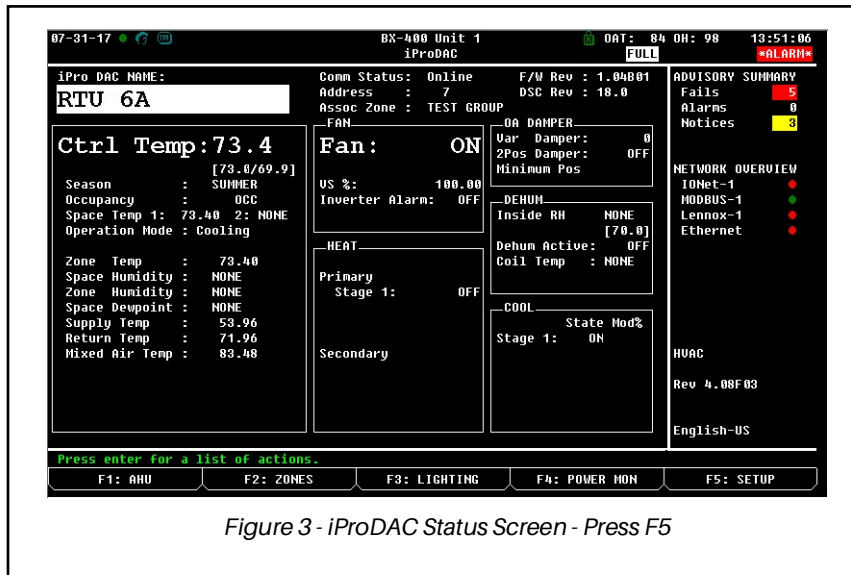

Figure 3 - iProDAC Status Screen - Press F5
2. Select **iProDAC** from the list - the iProDAC Status screen will open (Figure 3).